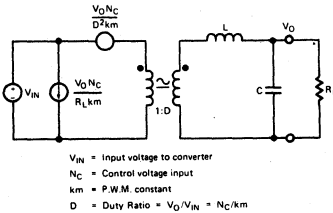

Figure 6. Linear Equivalent Circuit
In experimentally attempting to confirm satisfactory operation of the output stages, the designer hopes to prove that a linear equivalent circuit model is valid for reasonable analysis. One such model as proposed by Middlebrook(6) is shown in Figure 6. This model describes the overall AC and DC transfer function and input and output impedances in terms of the duty cycle and modulation constant. This model assumes that the effects of operating frequency, switching delays, and parasitic elements are well above the frequencies of interest as defined by the output LC filter.